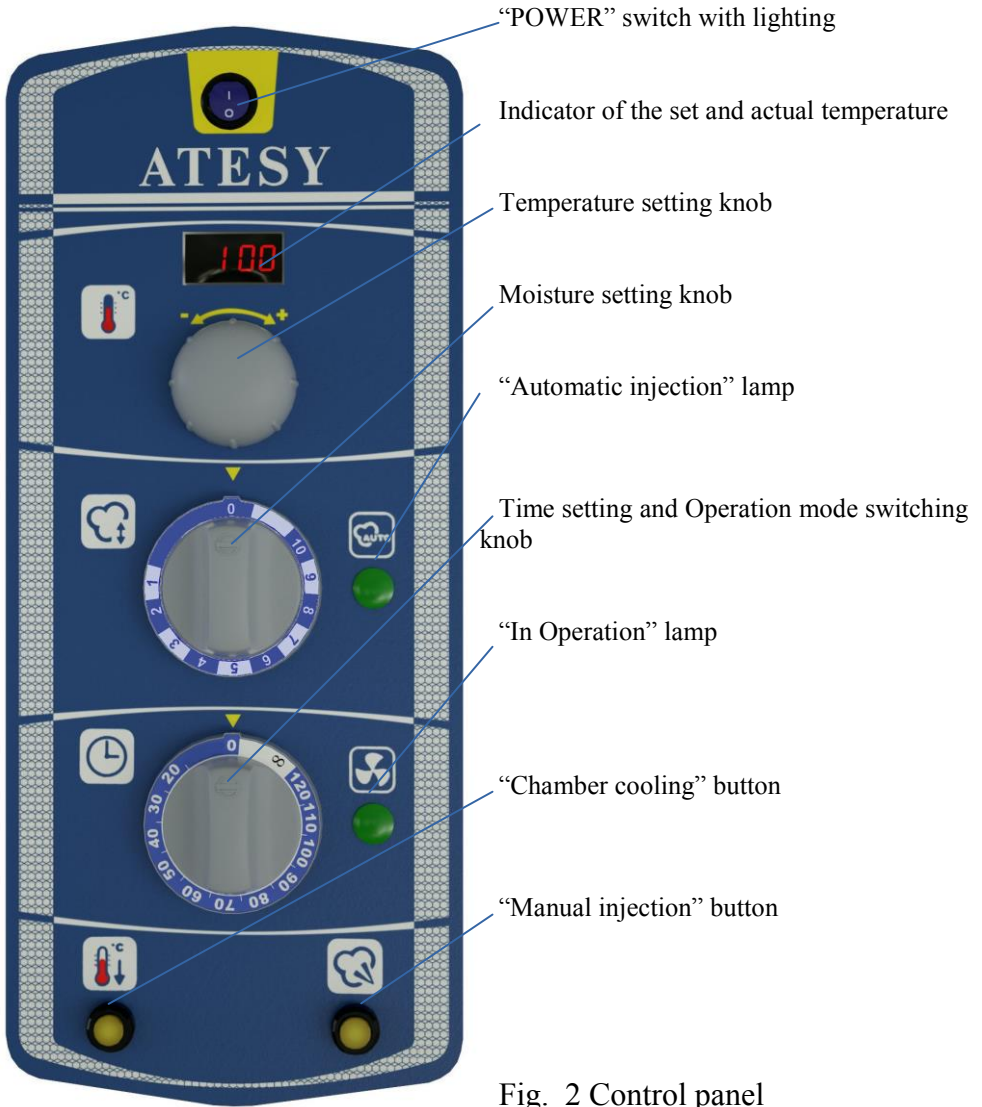

Fig. 2 Control panel
Control system includes a controller (15), power switch (16), a valve (19), a tubular electric heater (12), and a control panel (8) with main control elements (Fig. 2)
The article is turned on using lighted switch and time setting knob (Fig. 2).
5.6. Supply power using “POWER” switch (Fig. 2), this results in lighting of temperature indicator and lighting of working chamber lamps. The temperature indicator shows firstly number of controller software, and then the set temperature value “100” (100°C).